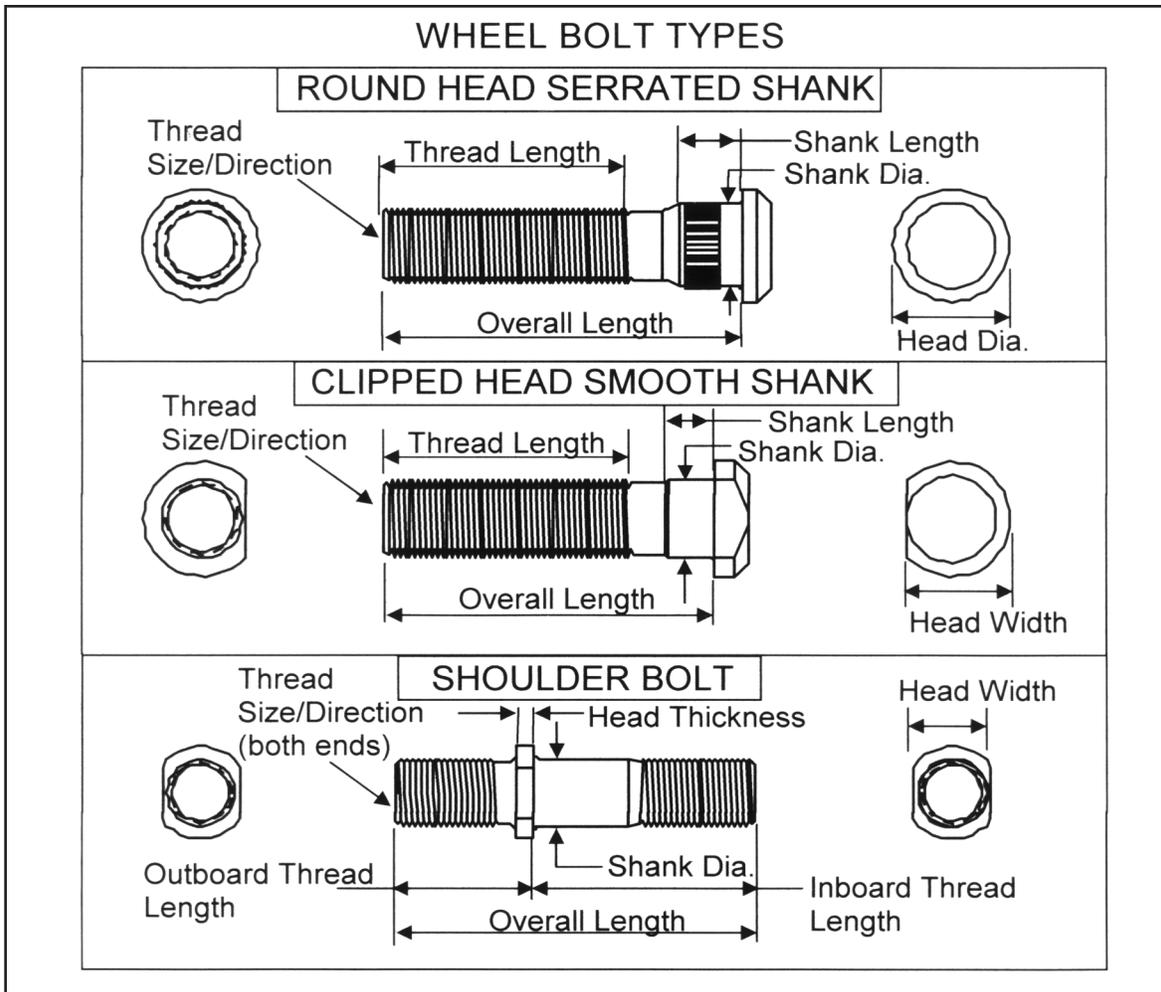

Figure 9
- 3. Wheel Stud Fit**—Wheel studs are designed with a specific press-fit into the flange of the hub to prevent the wheel stud from rotational movement during the disc wheel installation or removal process. Measure the body/shank-diameter, length and serration diameter. The head style of fastener must match the original application. Make sure the replacement wheel stud matches the original fastener to maintain the designed press fit into the hub and clearance to the disc wheel and/or brake drum (see Figure 9).
There are three basic types of wheel bolts commonly used in Class 6-8 commercial hubs (see **Figure 9**):